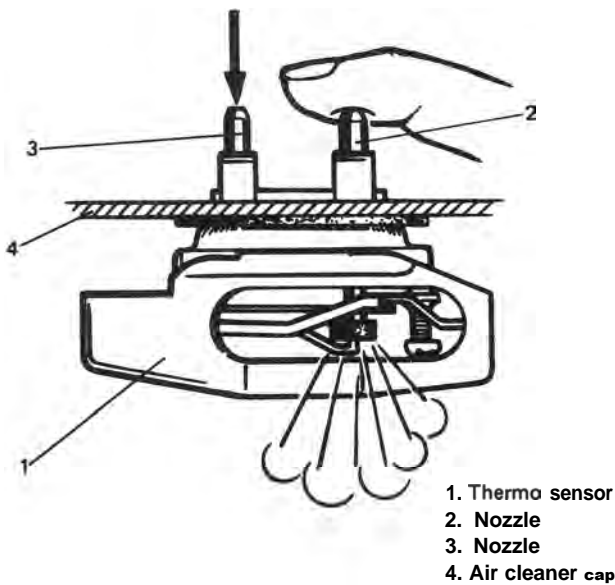

Fig. 5-3-6 Checking **thermo** sensor
- 4) Close a nozzle with finger and then blow air into nozzle. If measured temperature is above 40°C (104° F), air should come out of thermo sensor valve (valve is open) as shown in Fig. 5-3-6.